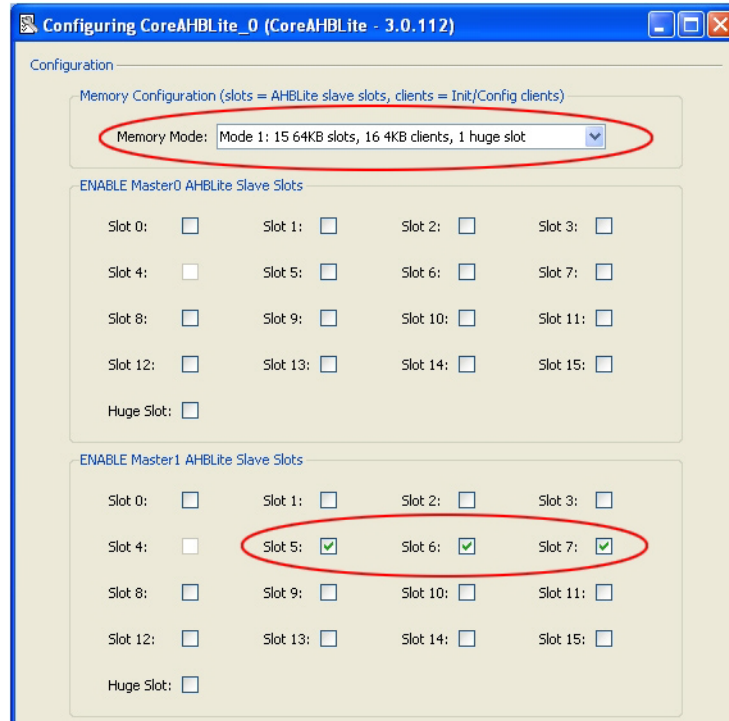

Figure 1-4 · Configuring AHBLite: Memory Mode and Slave Slots
The fabric AMBA subsystem is created into a regular SmartDesign component, and then the MSS component is instantiated into that component (as shown in Figure 1-4).
- Select the Memory Mode 1 as shown in Figure 1-4. This mode provides 15 64KB slots that can be used to connect 15 AHBLite slaves. You may ignore the 16 4KB clients slots (mapped into Slot 4) and the huge slot as they are irrelevant in this particular MSS master configuration.